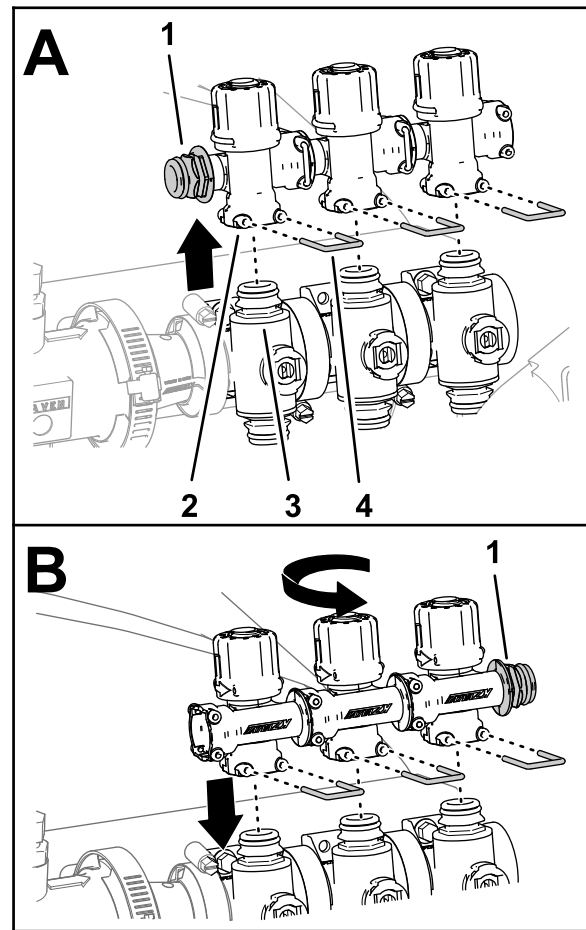

Figure 67
- Remove the 3 retainers that secure the 3 bypass valves to the left, center, and right section valves (Figure 67).
- Lift the bypass valves from the section valves (Figure 67).
- Rotate the bypass valves 180° and assemble them onto the quick disconnect fittings of the section valves (Figure 67).
- Secure the 3 bypass valves to the section valves with the 3 retainers that you removed in step 4 (Figure 67).